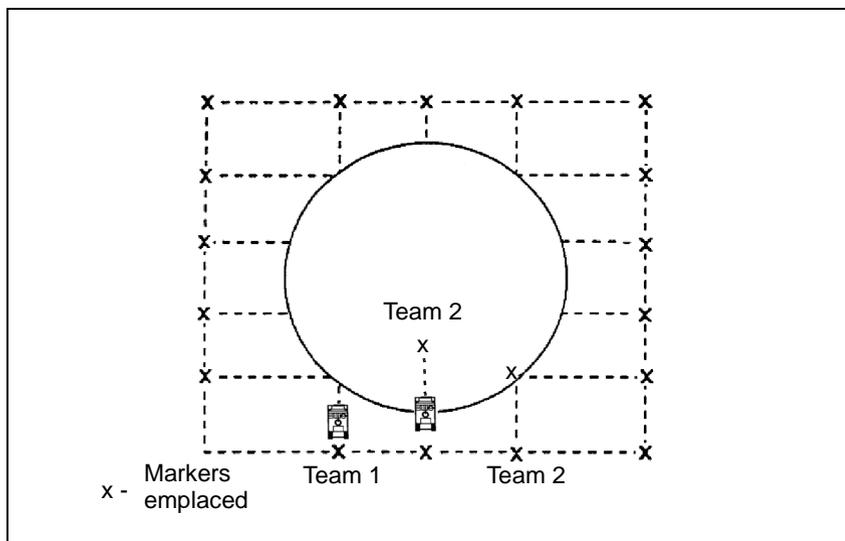

Figure 03-3-D0B16-1
3. The vehicle commander verifies each boundary (north, south, east, and west) for the specific area of interest according to the operation order (OPORD). See *Figure 03-3-DOB16-1*.